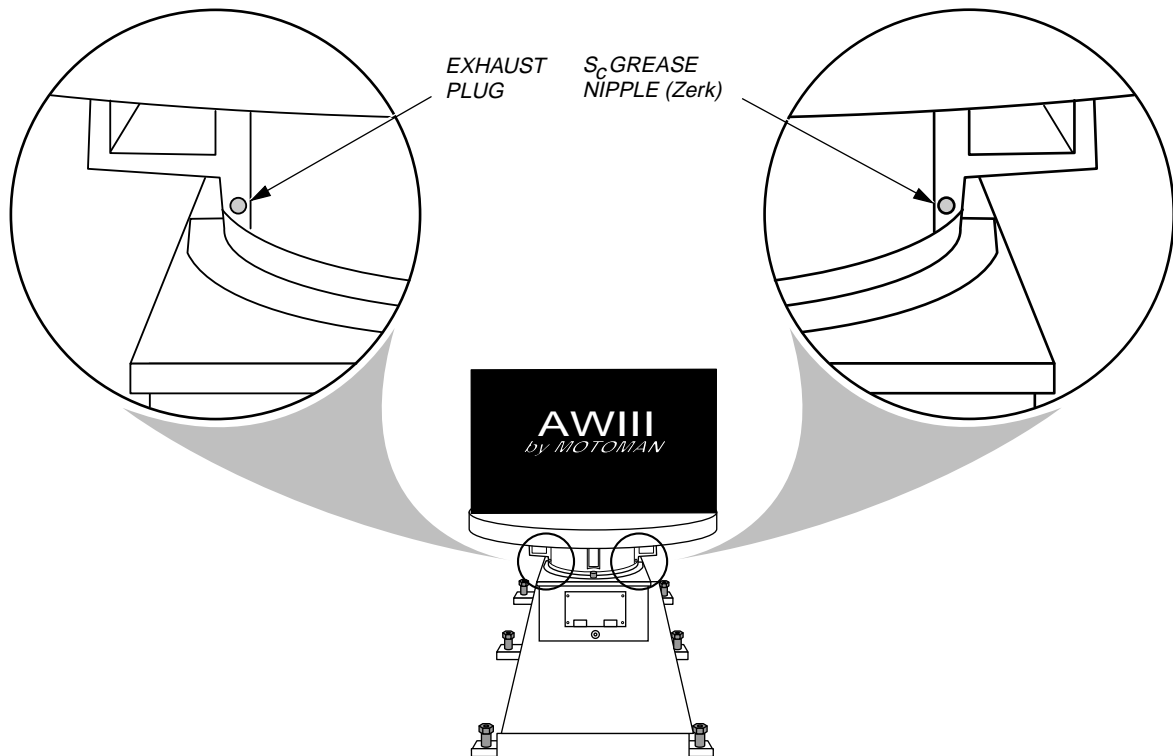

Figure 6-3 Greasing the Cross Roller Bearings
1. Remove exhaust plug for air flow (see Figure 6-3).